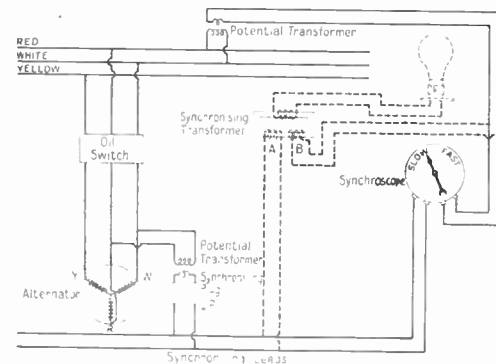

FIG. 1.—THE INSTRUMENTS USED FOR SYNCHRONISING.
**T**O synchronise an alternator of any size, the speed of the set must give exactly the same periodicity as the system, the voltage of the incoming machine must be the same as that of the system or slightly higher, and the incoming machine must reach the crest and bottom of the wave in exact step with the system. Fig. 1 shows the instruments used for synchronising. The voltmeters for the system and the machine have been omitted to keep the diagram simple. In Fig. 1, R, W and Y indicate the phase windings. The machine is connected to the busbars through the oil switch.